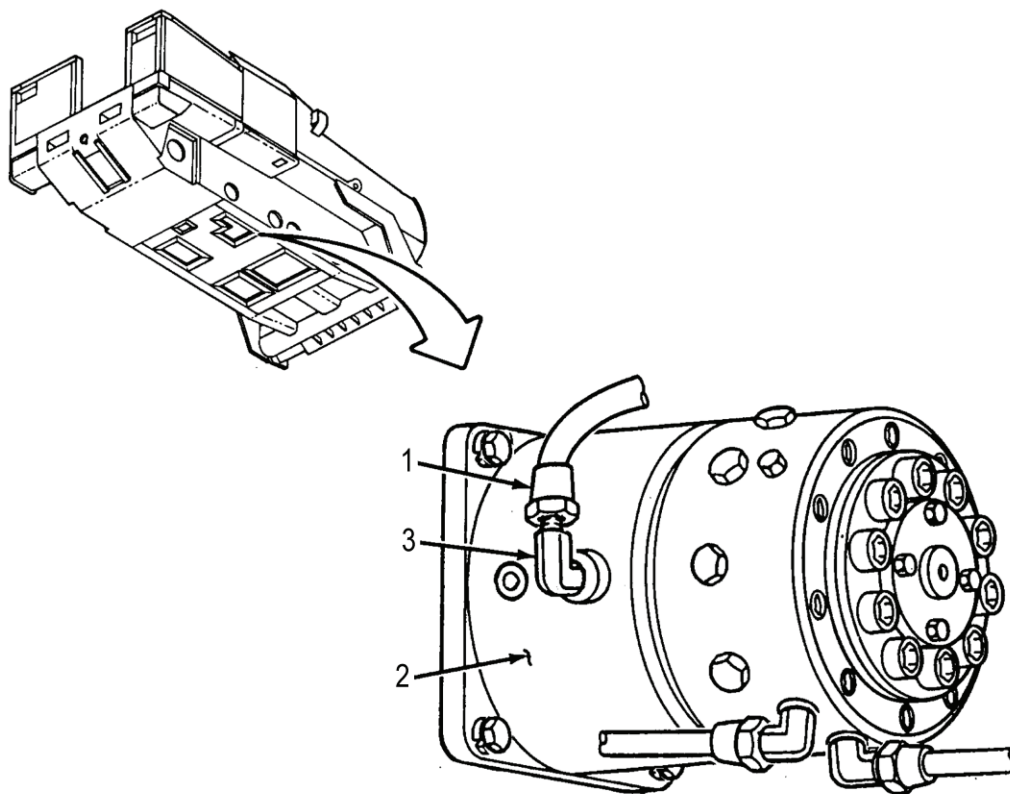

Figure 4. Main Pump
- Loosen, but do not disconnect, PUMP SUCT TUBE-#7 (Figure 4, item 1) from elbow (Figure 4, item 3) on main hydraulic pump (Figure 4, item 2). Hydraulic oil should flow freely from the loosened fitting.